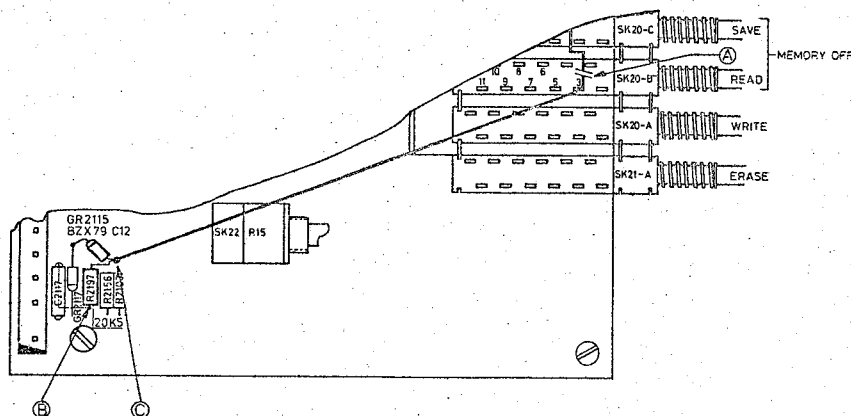

Fig. 1. Part of variable persistence and storage unit.
2. Interrupt the track (on the track-side of the p.w.b.) between point 3 of SK20B (READ) and the anode of GR2117 as indicated in fig. 1 (A).
4. Solder one side of a resistor of 20k5 (5322 116 55255) on the point, which is connected with C2117 as indicated in fig. 1 (B) (on the component side of the p.w.b.)
5. Solder between the resistor of 20k5 and the anode of the zenerdiode GR2117 a zenerdiode (GR2115) BZX 79 C12 (4822 130 34197). The cathode of GR2115 to the anode of GR2117 (see fig. 1)
6. Mount an interconnection wire between the anode of GR2115 (fig. 1 (C)) and point 3 of the switch SK20B (READ)